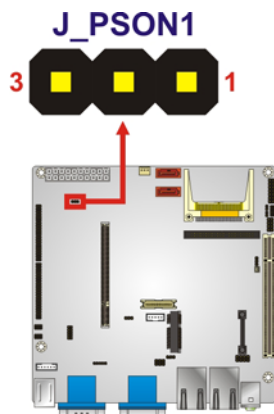

Figure 4-4: AT/ATX Power Mode Jumper Location
- Jumper Location: See Figure 4-4